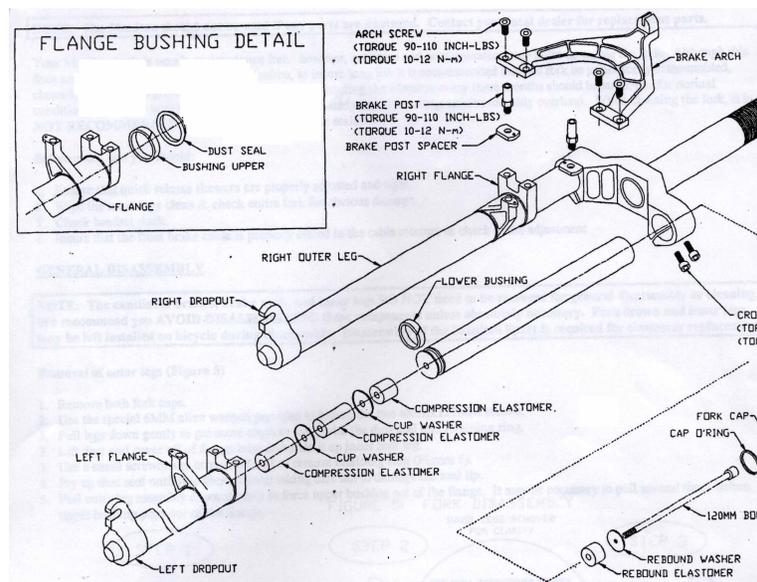

Figure 1
5. Install lower bushing and assemble elastomers* as shown ensuring that there is a washer between each elastomer (Figure 1).